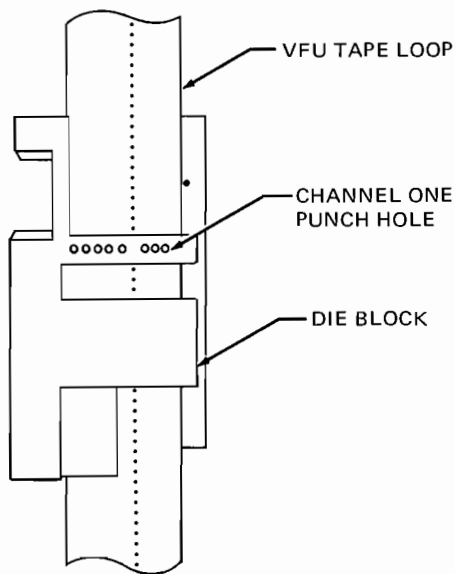

Figure 5
2. Using the clutch knob, advance the paper to the top of the first form. Remove the punch pin from its holder and punch a hole in channel one by pushing the pin into channel one of the die block. (See figure 5.)